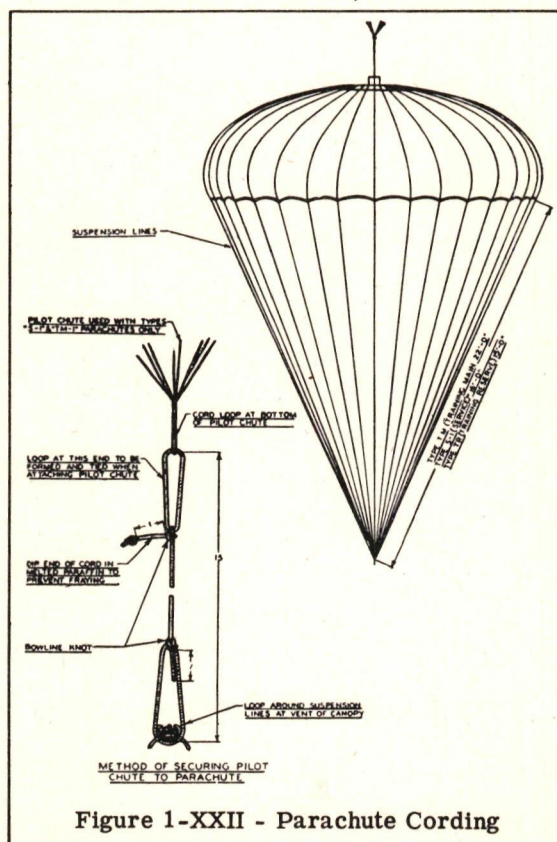
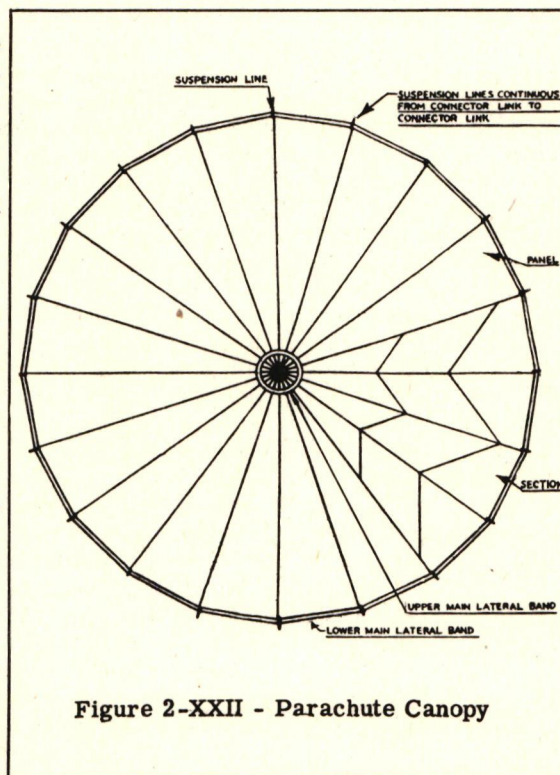

Figure 1-XXII - Parachute Cording
Figure 2-XXII - Parachute Canopy
(1) The canopy, which is constructed of high-grade silk fabric, constitutes the lifting surface of the parachute assembly, and as shown in fig. 1-XXII has a framework of cords, known as suspension lines, by which the load on the parachute is suspended. These lines vary in number depending upon the size of the canopy. Each line extends from a connector link on one side of the harness riser to the skirt of the canopy, thence through a channel in the silk covering, entirely across the surface of the canopy to a point on the skirt diametrically opposite, and continuing to the riser on the other side of the harness. This permits each line to be a continuous length from one side of the harness to the other. The lines cross each other at the apex of the canopy as shown in fig. 2-XXII.
(2) That part of the canopy between any two suspension lines is known as a panel.
(3) The panels are further subdivided into sections. The silk of each section is cut on a bias, as shown in fig. 2-XXII with the warp of the fabric running at a 45 degree angle to the center line of the panel. This arrangement not only permits greater economy in cutting the fabric, but